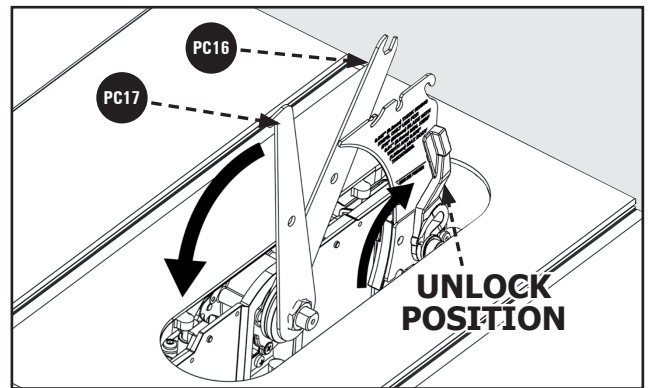

Figure 14
2. Ensure Riving Knife Lock Lever is in unlock position. See Figure 14.
5. Holding the Spindle Shaft in place, loosen and remove the Arbor Nut and Outer Blade Washer. See Figure 14.